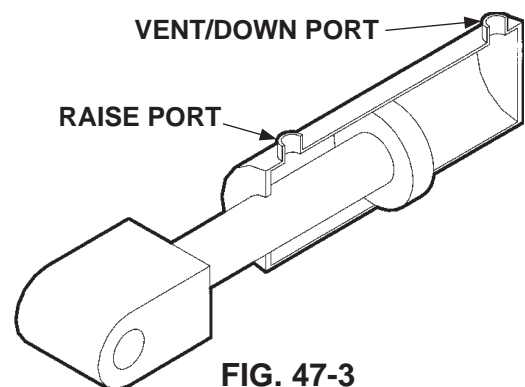

FIG. 47-3
3. Check the hydraulic cylinder. With the platform on the ground, remove the hydraulic line from the vent/down port of the cylinder (**FIG. 47-3**). Raise the platform even with the bed. Allow pump motor to run two seconds more while you watch for hydraulic fluid at the vent/down port. A few drops of hydraulic fluid escaping the vent/down port is normal; however, if it streams from the vent/down port, piston seals are worn. Replace seals.